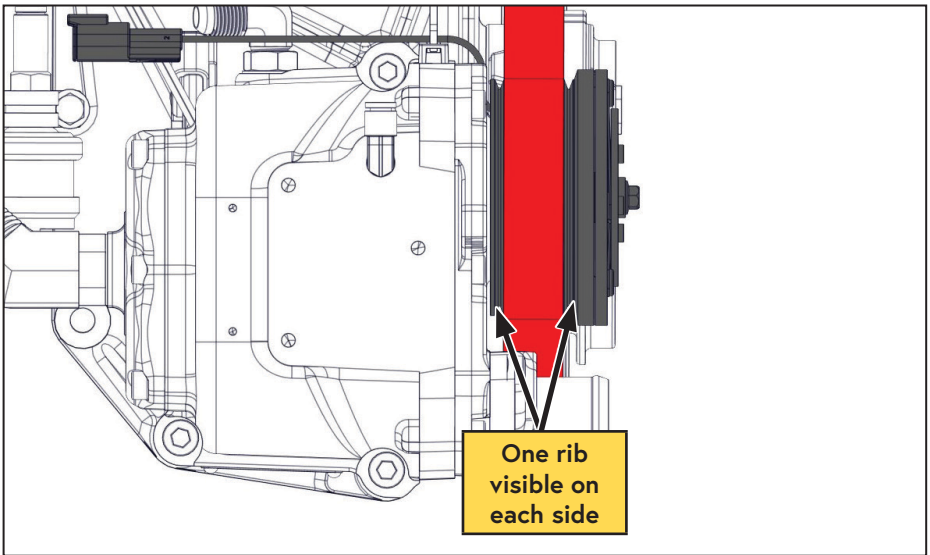

Figure 17 — Align belt on clutch
- Ensure the 6 rib belt is centered on the 8 rib compressor clutch. One clutch rib should be visible on each side of the belt (Figure 17).